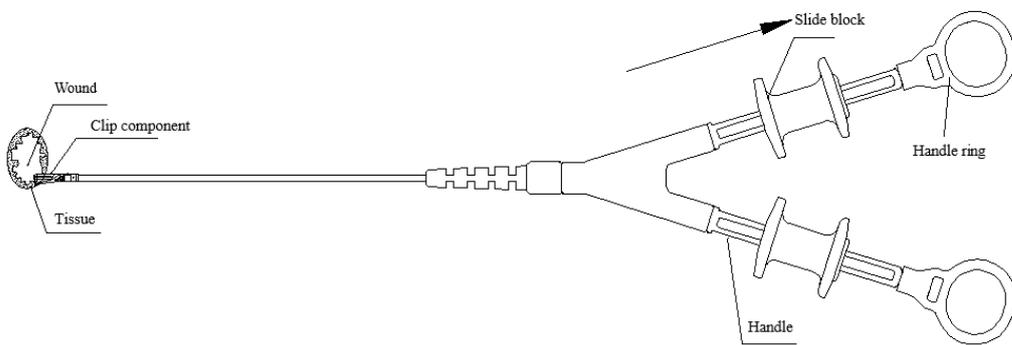

Fig 4 Clamping
A. Close Disposable Dual Action Tissue Clip at the required position, and slowly move the slide block to the direction of the handle ring until there is resistance on the handle, so that Disposable Dual Action Tissue Clip is gradually closed, but not released; if it is found that the position is not good at this time, you can re-open the clip until the clamping of the tissue is completed. (as shown in Fig 4)